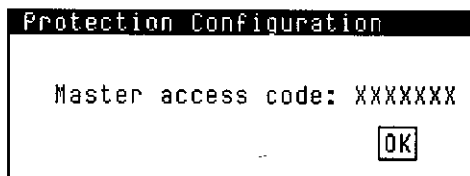

Figure 2-4.
1. Click on **<Protection>** from the Configuration window. The Protection Configuration window, Figure 2-4, is displayed.